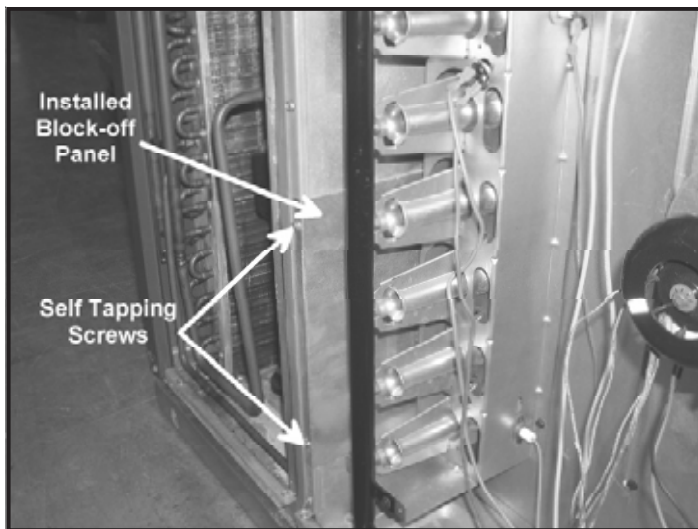

Figure 3
8. Using self tapping screws, secure block-off plate to unit such that louver bank is totally blocked off. (See Figure 3)